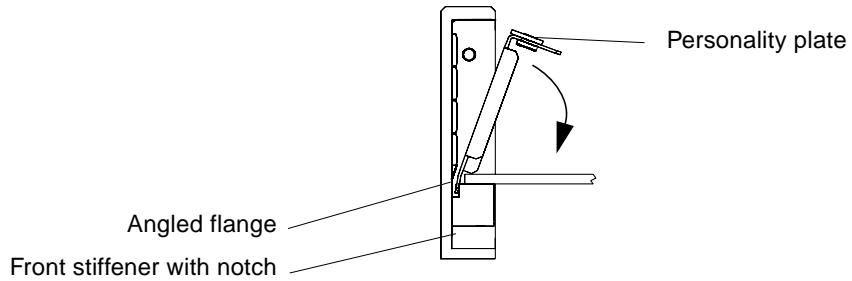

FIGURE 4 Personality Plate Removal (Top View)
2. **Lift personality plate out as noted in FIGURE 4.**